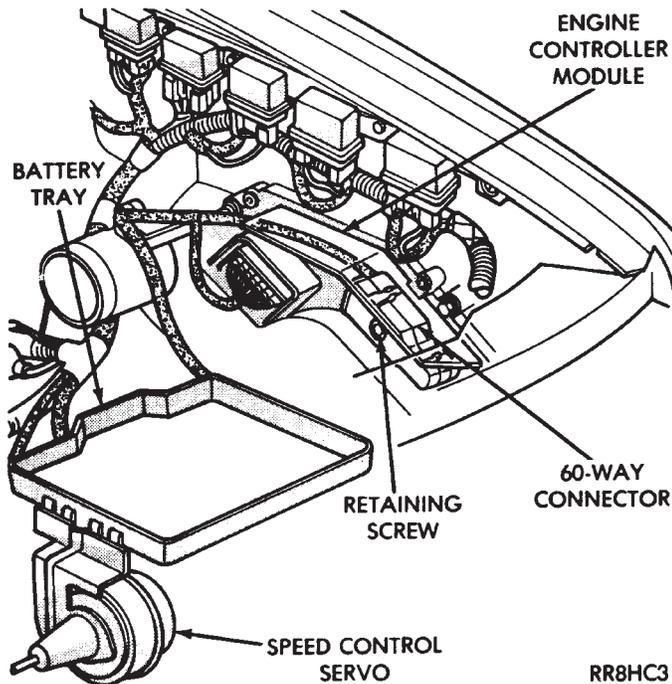

Fig. 13 Engine Controller and Connector Location
(1) Unplug 60-way connector from the engine controller, located next to the battery (Fig. 13).